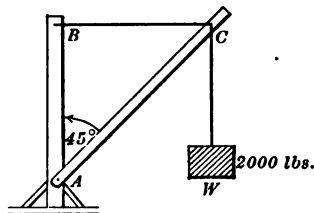

FIG. 127. — Diagram of simple crane.
6. Figure 127 shows a simple crane. Find the tension in the tie rope  $BC$  and the push of the brace  $AC$ , when the weight  $W$  is one ton, and the angle  $BAC$  is  $45^\circ$ .